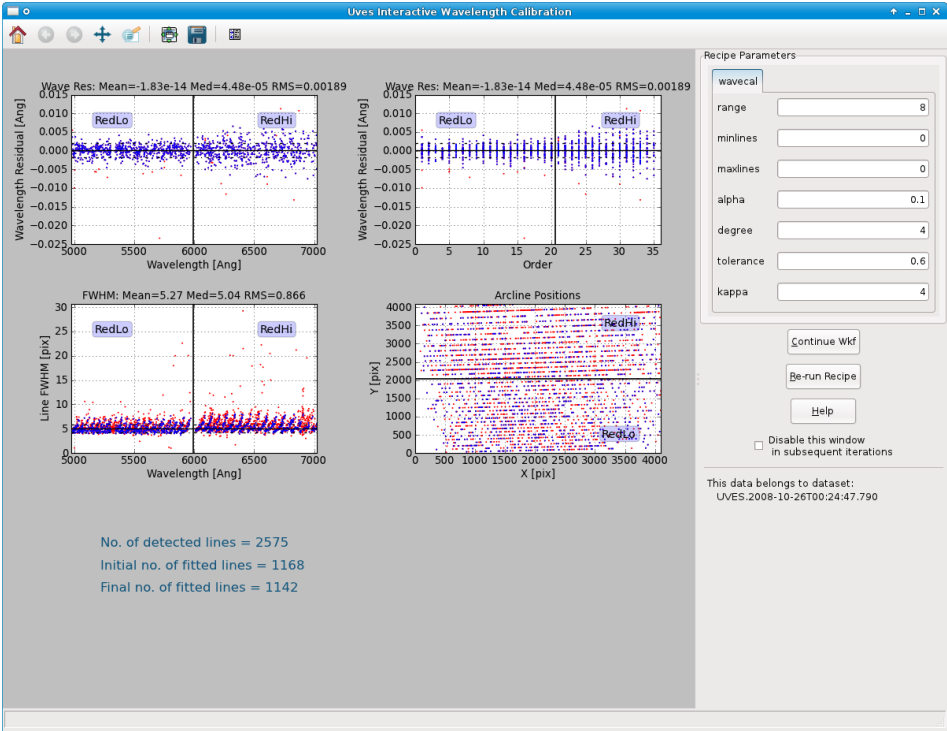

Figure 7.1: The interactive window for the Wavelength Calibration actor for the first DataSet in the data supplied with Reflex 2.5.
- Wavelength Calibration:** The next interactive window that will appear (see Figure 7.1) is associated with the execution of the Wavelength Calibration actor, which executes the UVES pipeline recipe `uves_cal_wavecal`. This pipeline recipe determines the wavelength calibration solution from an appropriate arc-lamp frame and a line reference catalogue. The top two plots in the interactive window show the wavelength calibration residuals for arc lines that were identified in the input line reference catalogue as a function of wavelength and spectral order. Blue points represent arc lines that were used in the final solution, and red points represent arc lines that were excluded from the final solution. The bottom-left plot shows the arc line FWHM as a function of wavelength, and the bottom-right plot displays the positions of all detected arc lines on the detector.